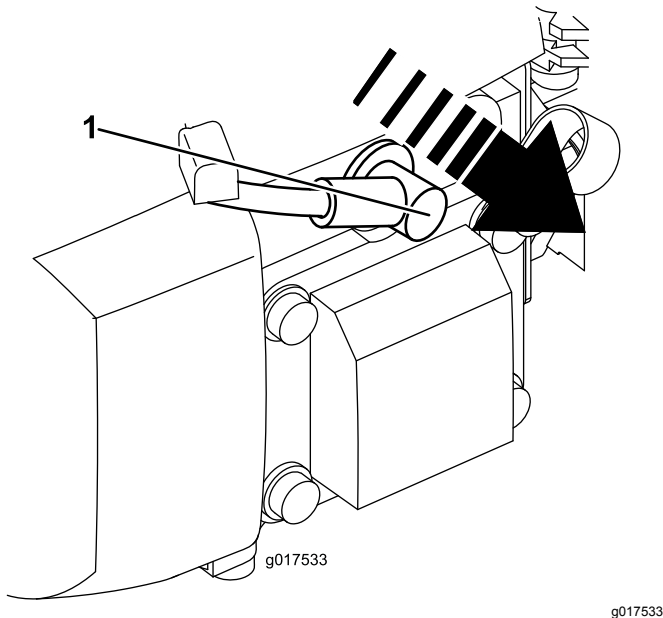

Figure 17
2. Disconnect the spark-plug wire from the spark plug (Figure 17) before performing any maintenance procedure.